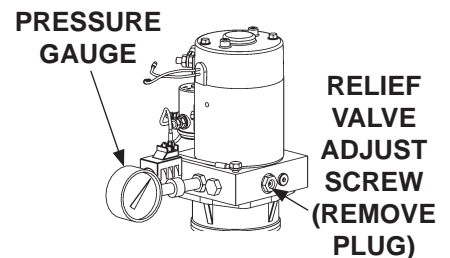

FIG. 69-2
9. With platform on the ground, remove the pressure hose and fitting from the pump and replace it with a 0-4000 PSI pressure gauge. Hold the control switch in the "raise" position. Adjust the relief valve on the side of the pump until the gauge shows 3250 PSI (FIG. 69-2). Remove gauge and reinstall pressure hose.